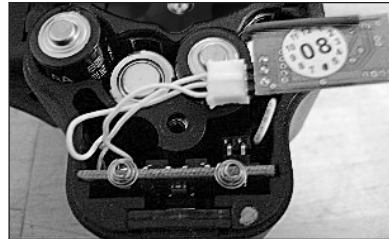

Fig. 6.1
- Carefully plug the RF transmitter into the Rip-Clip's harness (Fig. 6.1).